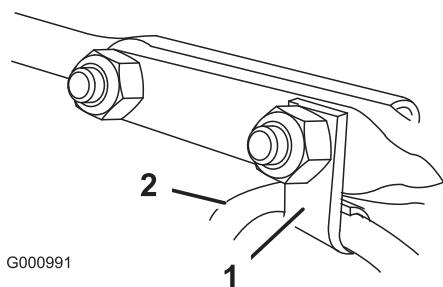

Figure 12
6. Insert the cable clip that supports the deflector cable onto the forward carriage bolt, and secure the carriage bolts with locknuts from the loose-parts bag (Figure 12).